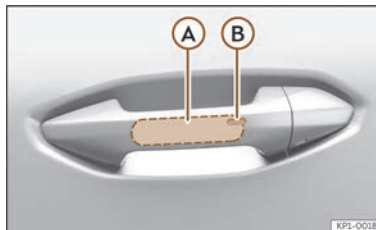

Fig. 74 Door handle: sensor surfaces.
>>> **Fig. 74**
- Touch the sensor surface (B) >>> **Fig. 74** on the outside of the door handle. All turn signals flash once.
- Within 5 seconds, touch the sensor on the outside of the door handle once >>> **Fig. 74** . Do not grip the handle while doing so. This temporarily deactivates the Keyless Access system.